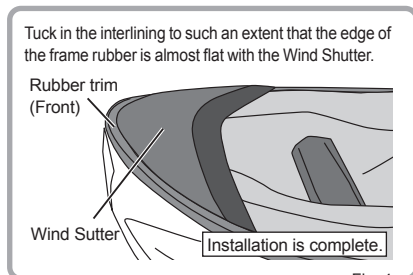

Fig. 4
4. Tuck in the interlining to such an extent that the edge of the frame rubber is almost flat with the Wind Shutter to complete the attachment (Fig.4).